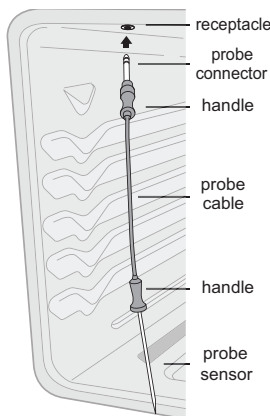

Figure 17: Using the meat probe
Do not use kitchen utensils to pull on the probe cable or handles. Always insert and remove the meat probe using the provided handles, as shown in Figure 17, and always use a pot holder to protect hands from possible burns.
2. Plug the connector end of the probe all the way into the probe receptacle while the oven is still cool. The receptacle is located on the upper left front oven cavity wall (See Figure 17). Close oven door.